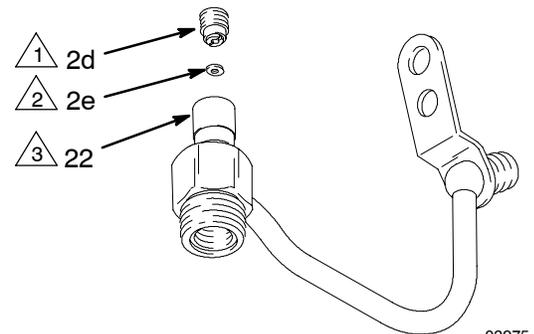

Fig. 13 03975
- Lightly grease the inner cavities of the fluid housing (22). Install the small seal (2e) so the lips face into the fluid housing cavity. Install the seal retainer (2d) and torque to 30-40 in-lb (3.4-4.5 N.m). See Fig. 13.